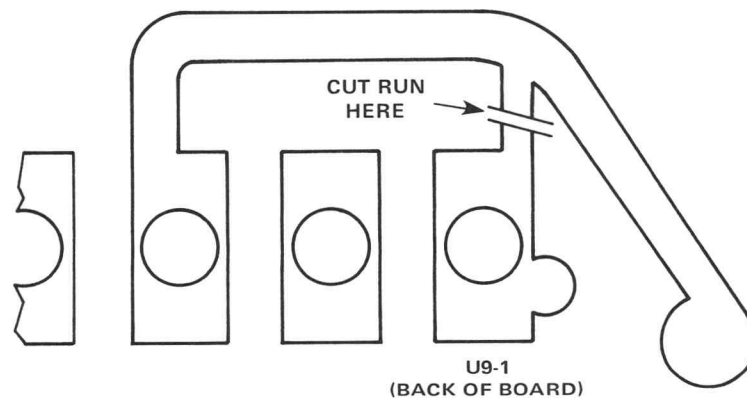

Figure 2-2. Detail View of Step 4a
- a. cut the etched run immediately adjacent to U9-1 (see Figure 2-2), and